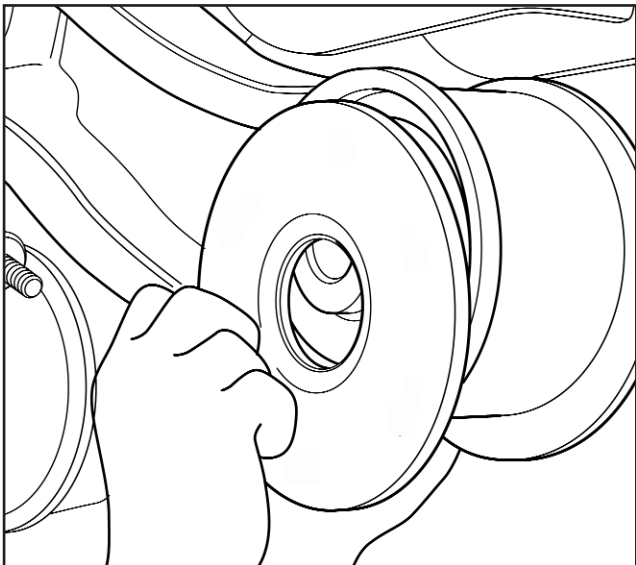

Fig 4.26
9. Remove the wear washers and the steel inner sleeves from the pivot bushes (Figs 4.26 & 4.27).